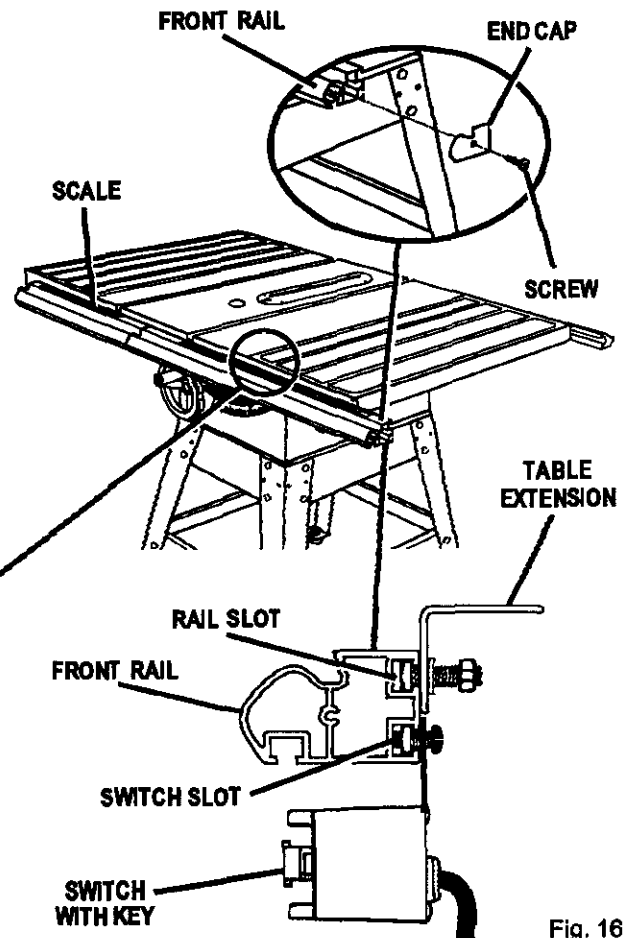

Fig. 16
- Align the right rail from left to right – Match the 7-1/8 in. mark on the right scale to the right edge of the table saw base (main table). See Figure 16.